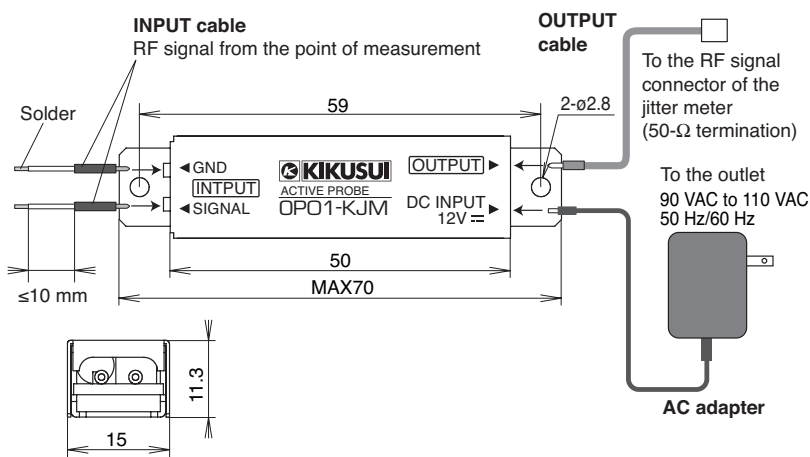

Fig. 1 Connecting the OP01-KJM
2. Connect the INPUT cables, AC adapter, and OUTPUT cable as shown in Fig. 1.
Dimensions (mm)	See Fig. 1